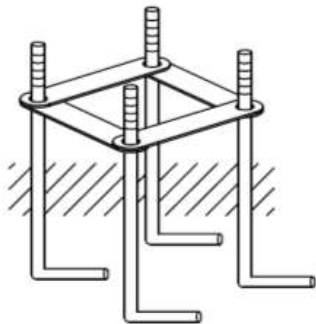

Fig. 1
- If fixing into fresh concrete: screw the rods into the fixing plate leaving between 12–16mm of thread above the surface and set it into the wet concrete (see Fig. 1)